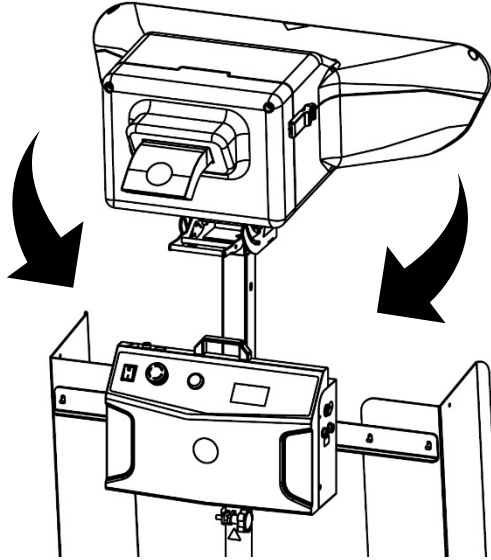

Figure 21 Output Chute Position
1. Make sure that the stand is positioned on a level surface and lock the brakes of the four swivel casters (refer to Figure 21).